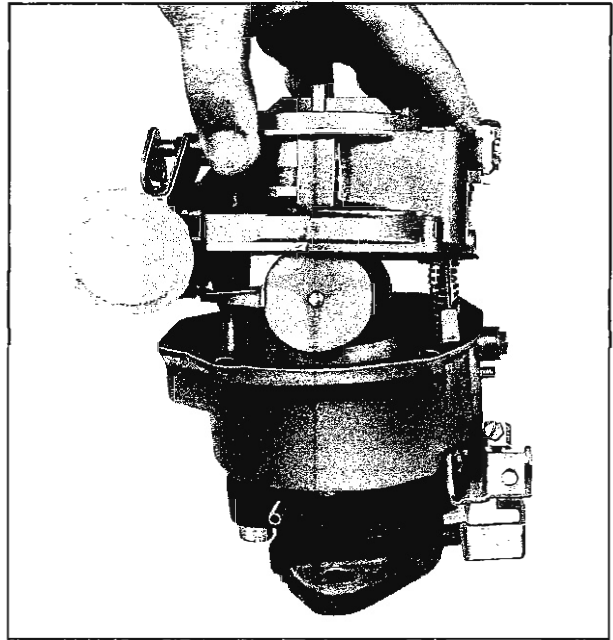

Fig. 6B-17 Removing Air Horn
3. Remove float hinge pin and lift float assembly from air horn (Fig. 6B-18). Float needle may now be removed.